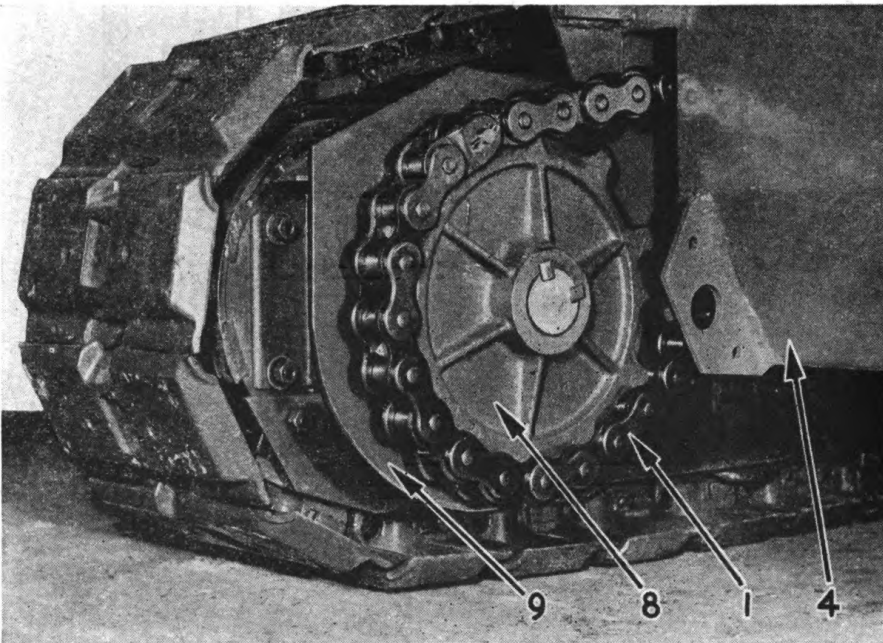
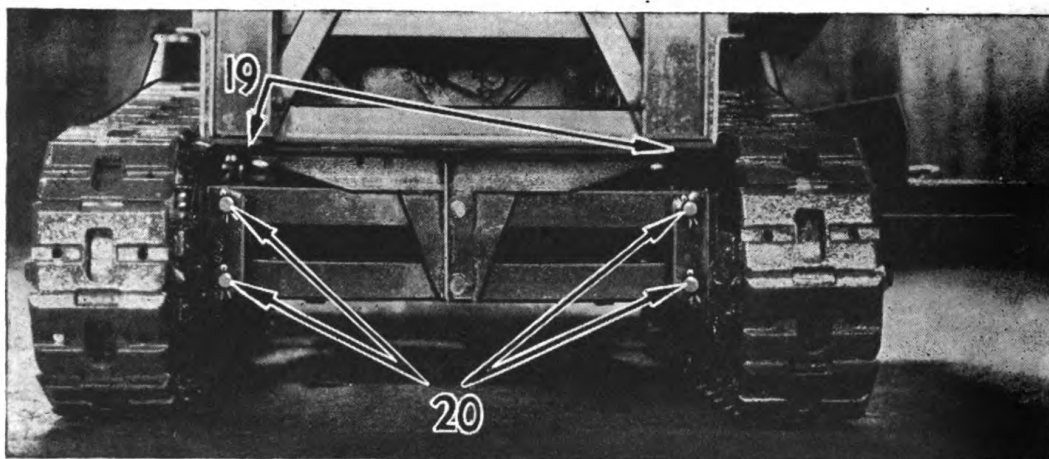

Figure 126. Inward side of crawlers showing crawler drive chain.
Figure 131. Crawlers remain parallel over uneven ground through use of the Barber-Greene oscillating type of axle.
- (b) Uncouple chains (34), Figure 118 and chains (1), Figure 126. Now remove the four bolts in each of the crawler pivot brackets (3), Figure 127.
- (c) Use two jacks under housing at (4), Figure 126, and raise the loader just enough to take the weight of the loader off the crawlers on each side.
- (a) Uncouple chain (1), Figure 126 and remove sprocket (8) which is double keyed and set screwed to the shaft, along with shield (9).
- (b) Follow instructions under Crawler Shoes and lay treads back away from the crawler sprocket on this shaft. Use jack at (4), Figure 126, to take the weight of the machine and raise crawler sprocket (14), Figure 128, clear of the track shoes at the bottom.
- (a) Follow instructions under Crawler Tracks and lay treads away from the traction wheel on this shaft. Use jacks at (19), Figure 131, to take the weight of the loader off this shaft.
- (b) Jack up the entire loader with jacks at points (4), Figure 126, and at (19), Figure 131. The crawler treads may be removed separately, to reduce the total crawler unit weight, if so desired, as per instructions under Crawler Treads. As the weight of the loader falls on jacks at (19), remove pins (20) in oscillating axle.